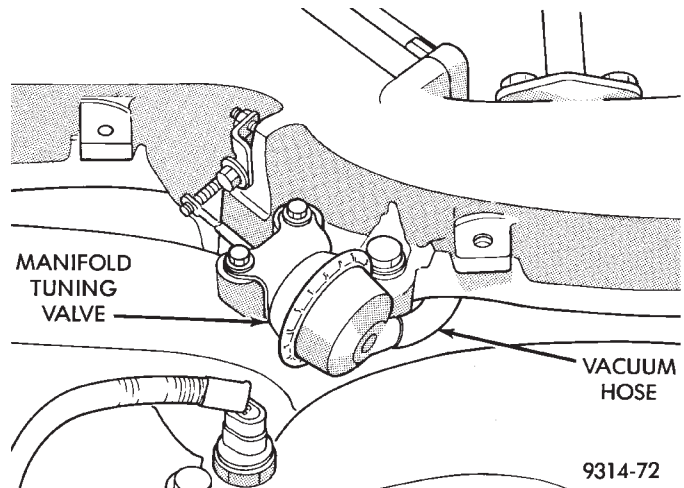

Fig. 75 Manifold Tuning Valve
- (1) Remove engine cover.
- (2) Disconnect vacuum hose from manifold tuning valve vacuum motor (Fig. 75).